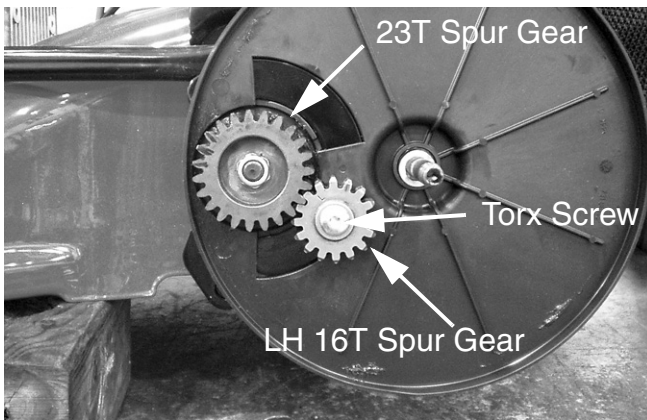

FIGURE 4
7. Using a T30 Torx bit and ratchet **and holding the vise grip pliers to keep the transmission axle from rotating**, remove the Torx head screw retaining the spur gear to the transmission's output shaft. Note the assembly sequence as you remove the spur gear, dowel pin, flat washer and wheel dust cover. See Figure 4.